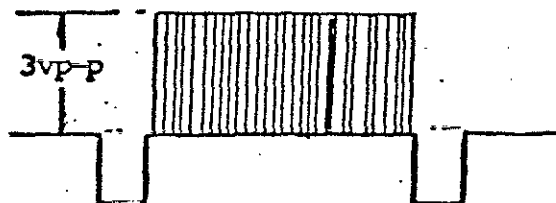

FIG 8
- 4) Adjust VR701 to obtain 3VP-P as shown in Fig 8 .